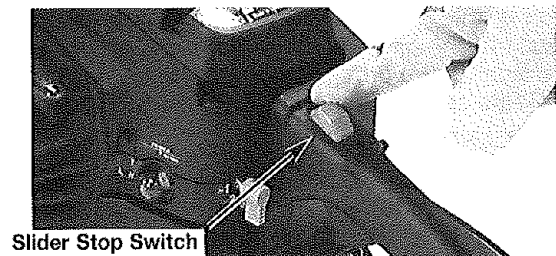
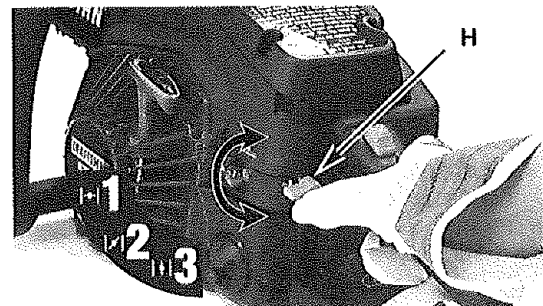

Fig. 4
Fig. 6
2. Move the STOP switch up to the STOP position (Fig. 4).
1. Slide the STOP switch down (Fig. 4). The **red choke lever (H)** has 3 positions: Positions 1, 2 and 3 (Fig. 6).
3. Move the **red choke lever (H)** to Position 1 (Fig. 6).